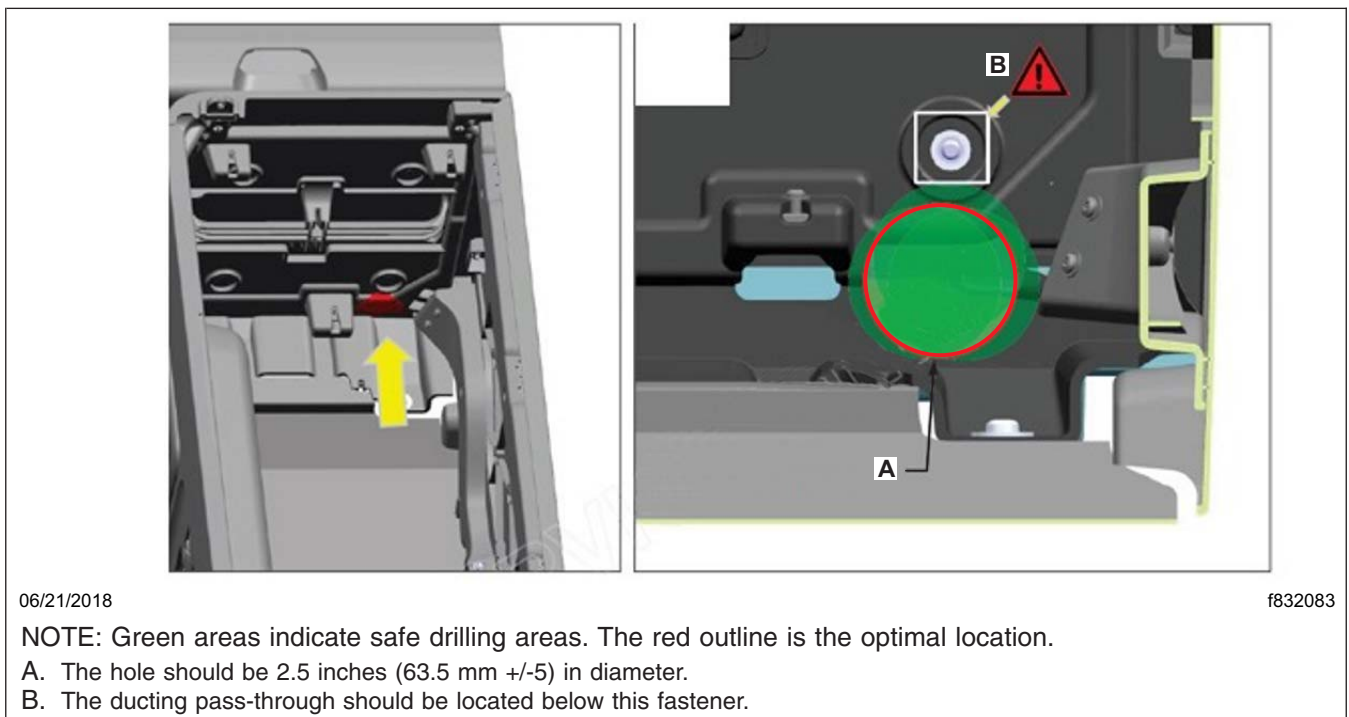

Fig. 5, Locating the Flex Ducting Pass-Through Hole
5. Locate the area shown in red for the flex ducting pass-through hole. See Fig. 5 .